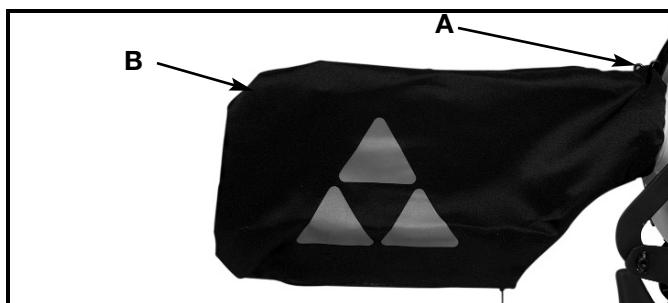

Fig. 8
Depress spring clips (A) Fig. 8, of dust bag (B) and clip dust bag (B) over rib of dust chute.